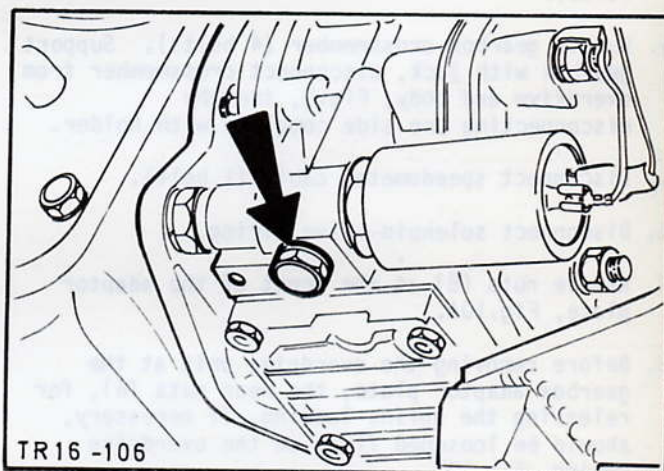
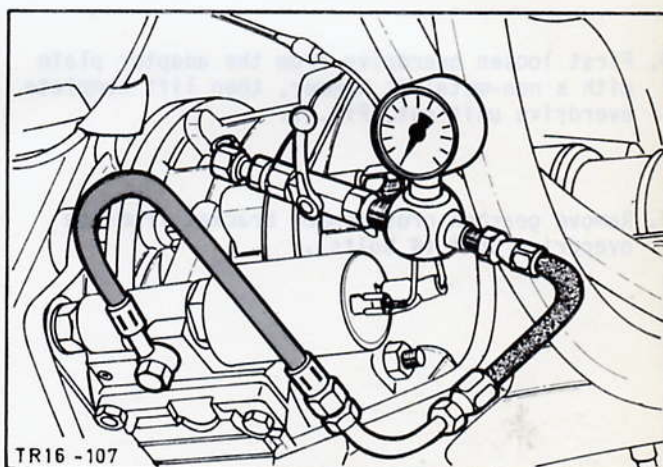

Fig.7. Screw plug for oil pressure check.
Fig.8. Measuring oil pressure.
2. After first ensuring that the oil level is correct, remove the screw plug, Fig.7, and then connect the hydraulic test equipment 13-007 with the adaptor 16-030, Fig.8.